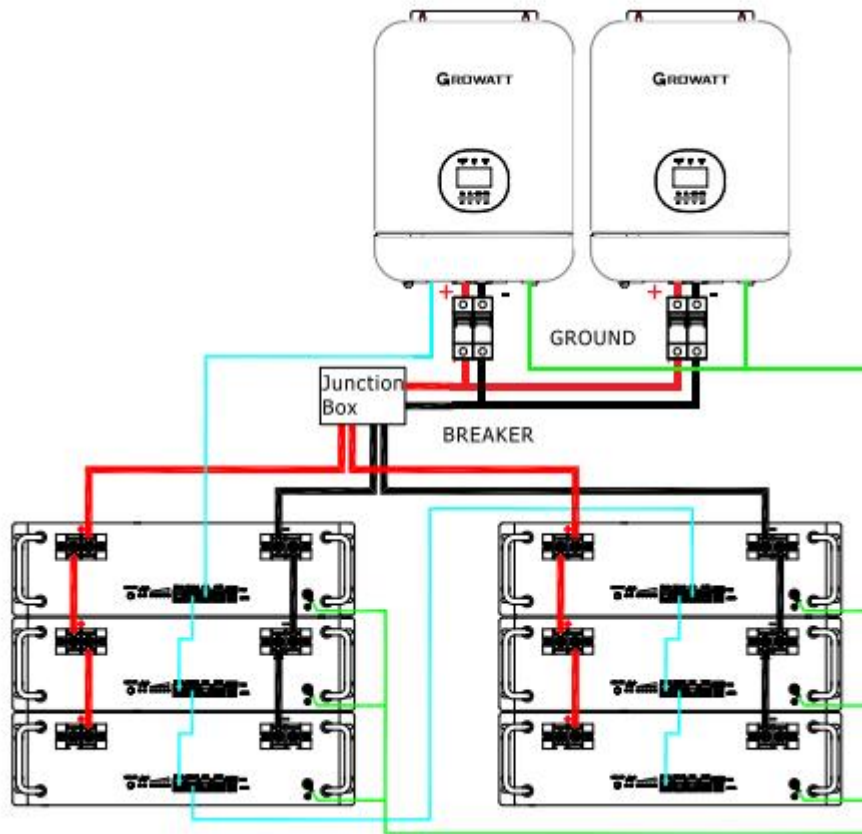

Figure 9: Installation diagram for capacity expansion and power expansion
- 2) Refer to Figure 9 for power cable wiring